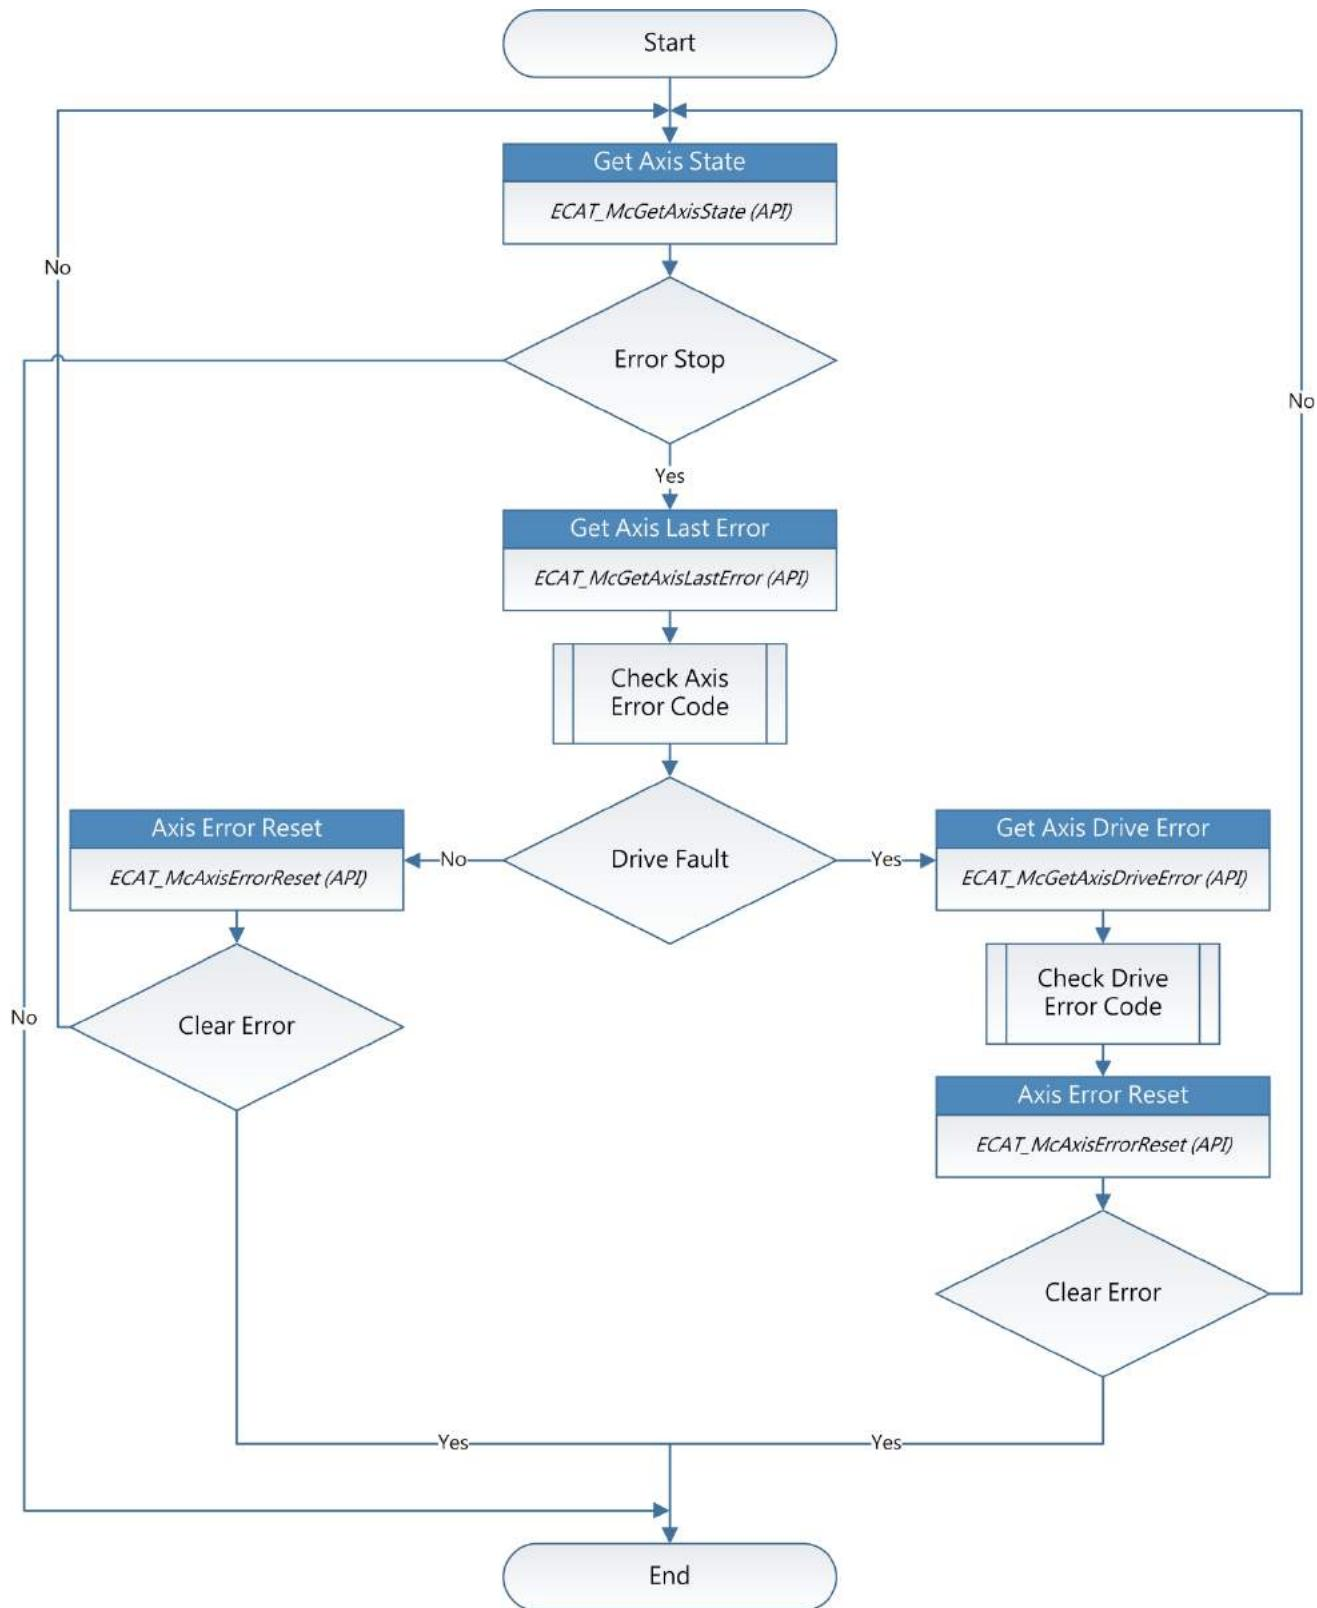

Figure 4.6
As shown in Figure 4.6, when the axis state is ErrorStop, *McGetAxisLastError* function can be used to get the error code. From the error code, the cause of error can be determined. The error handling includes two parts: (1) If the error is not a servo drive error, the user can call *McAxisErrorReset* to clear the error. The axis state will be changed from ErrorStop to Standstill. (2) If the error comes from a servo drive, *McGetAxisDriveError* function can be called to get the drive's error code, and then call *McAxisErrorReset* to clear its error. Some servo drive errors can be cleared by the reset command; but some cannot. If the reset command does not change the axis state back to Standstill, please restart (turn the power off than on) the servo drive to clear its error.